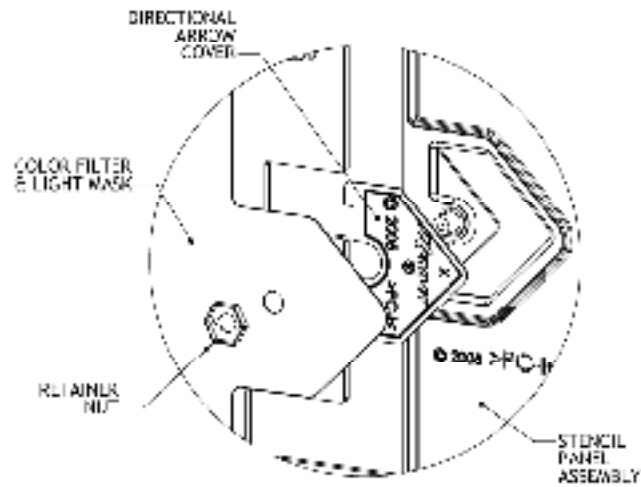

Figure 4
- Directional Indicators (Fig. 4): Configure DIRECTIONAL ARROWS as needed. To remove DIRECTIONAL ARROW COVER, use 7/16” nut driver (not supplied) to loosen RETAINER NUT approx. one complete turn. Push in cover from outside. Tighten RETAINER NUT to secure COLOR FILTER PANEL and aluminum LIGHT MASK (if provided).